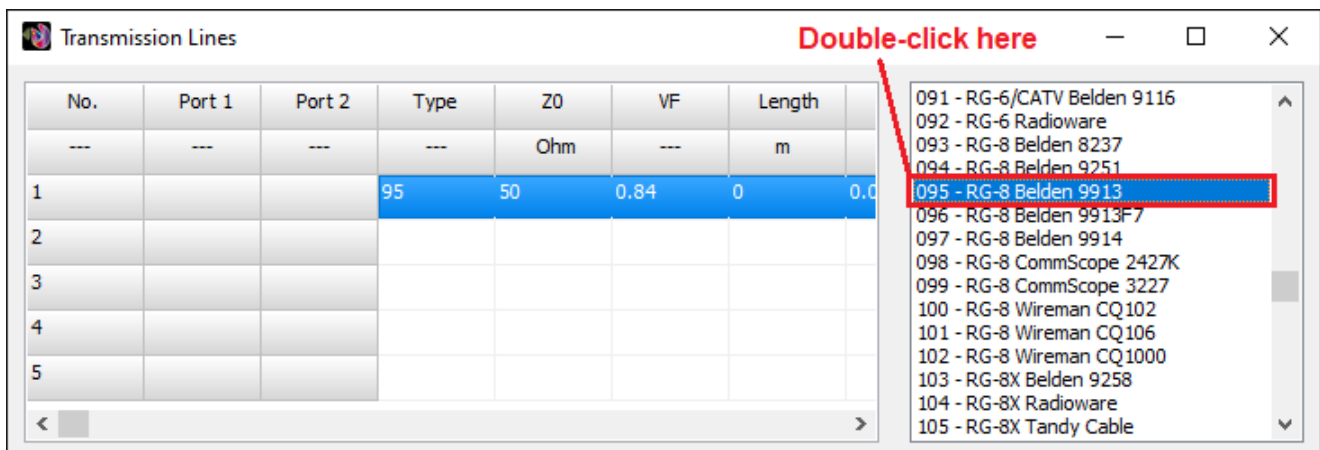

Fig. 3: On the right panel, double-click on the chosen line type to automatically complete the selected row.
2. On the right-hand panel, choose a type of transmission line and double-click on your chosen type. The selected row will be automatically completed, Fig. 3.